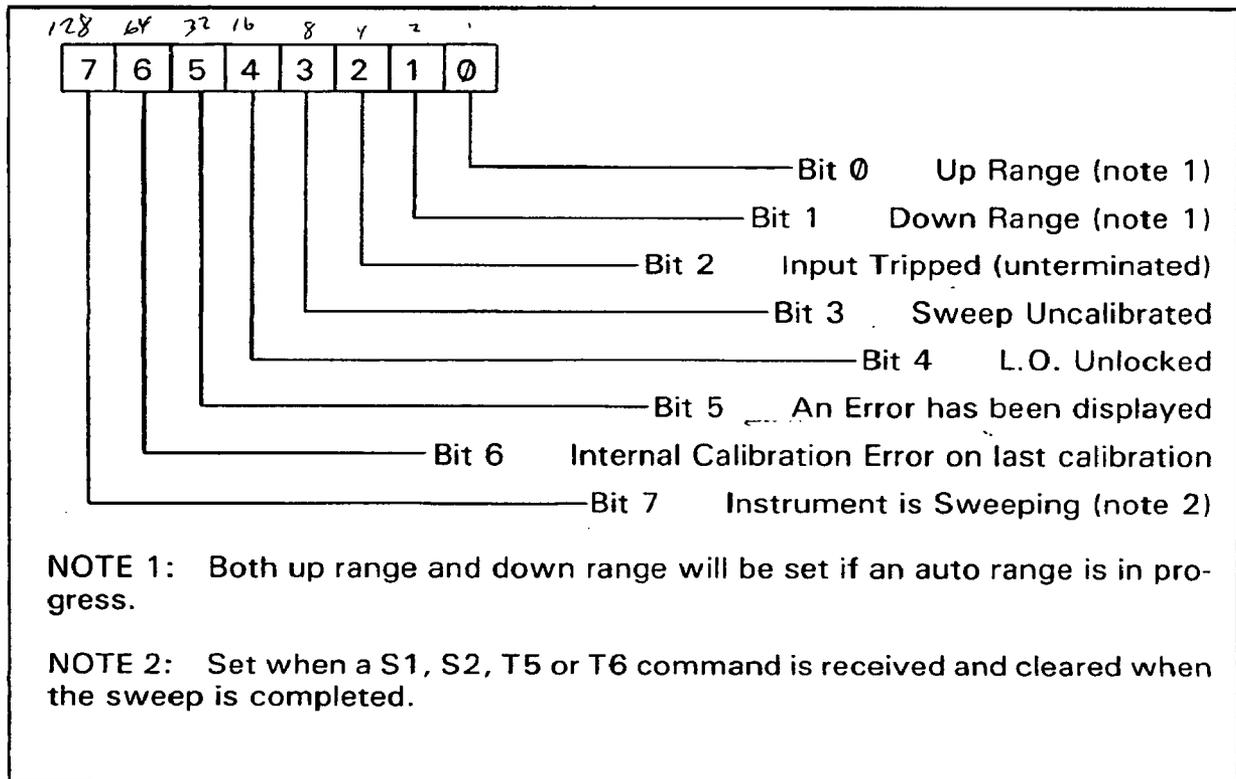

Figure 3-2-2. First Status Word For Dump Mode 6.
**D6**—Dump the Status registers. This output consists of two binary words. The first word contains the status bits as shown in Figure 3-2-2. The second status word, shown in Table 3-2-8, contains the code for the last error message that was displayed. Bits 4, 5 and 6 of the first word and the entire second word will be cleared with an Instrument Preset or a device clear. The appropriate bit of the status word will be set to a “1” if the condition is true. Bit 7 of the first status word is set by a S1, S2, T5 or T6 command. It is cleared when the sweep started by the sweep or trigger command is completed.